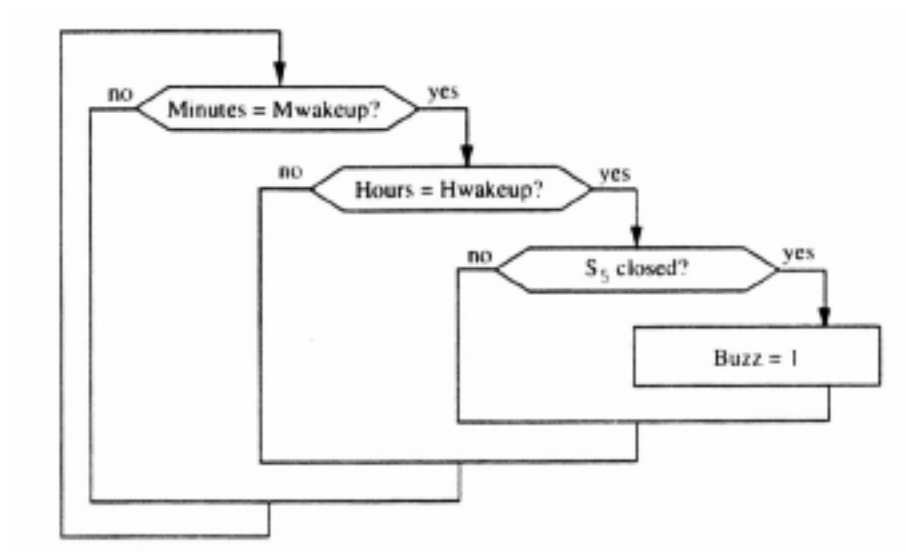
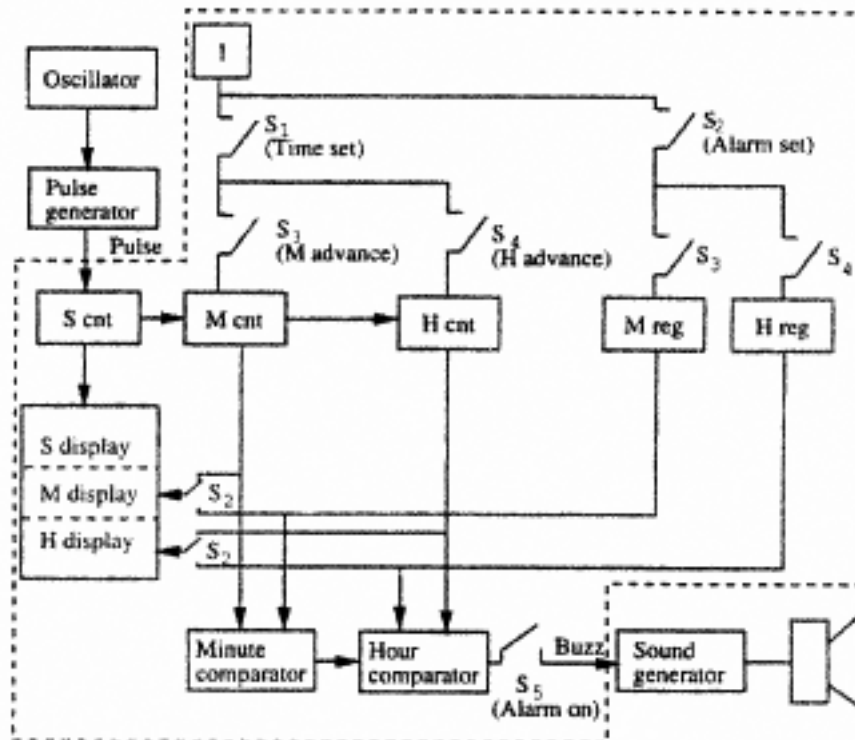

Figure 2: Alarm Buzz Behavior
Figure 4: Alarm Clock Structural Schematic
The buzzing part is essentially nothing but an equality check between the minutes and hours of the current time and the alarm time (not too many people seem to care about alarms that buzz on a particular second, so the buzzer will not check for equality of seconds), complete with an **AlarmOn** switch that is used to turn the buzzer on and off, in case the user doesn't want to be rudely awakened on a day of leisure (See switch "S5" in **Figure 2** and **Figure 4**). The setting of alarm time and current time is shown in **Figure 3**. The user will enable the setting of the time with a pair of switches, **SetCurrentTime** and **SetAlarmTime**: If neither switch is on, then the
In addition, the behavioral description in **Figure 2** that illustrates the buzzing functionality can be seen to necessitate an equality check between the current time and alarm time. We will provide you with a **6Comp** circuit that implements this functionality.
A high-level structural schematic that embodies this discussion is provided for you in **Figure 4**.
- You should use a Binary Switch to activate the alarm functionality (Alarm On/Off). (Refer to switch S5 in Figure 2 and Figure 4.)
- You should implement the logic that will enable the user to set the alarm time (in AlarmDev) and the current time (in ClockDev). You should use two switches (Refer to switches S1 and S2 in Figure 3 and Figure 4) and a decoder component, which you can get from the library, to implement the following cases: